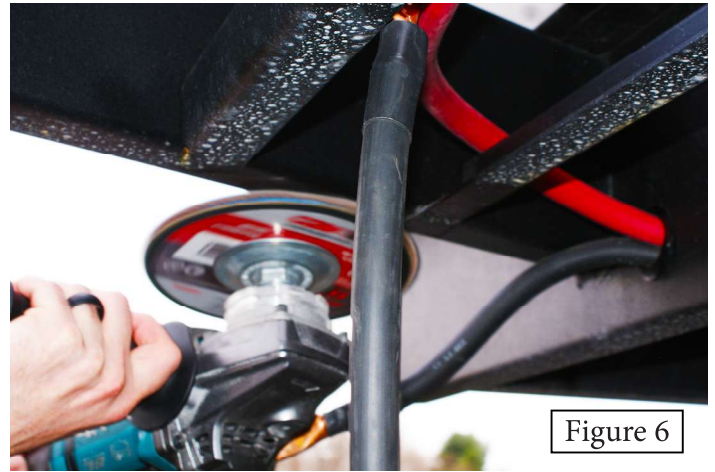

Figure 6
- Use a power grinder with a T-29 aluminum grinding disc to remove the paint from the area where you are going to install the ground on the frame (Figure 6).